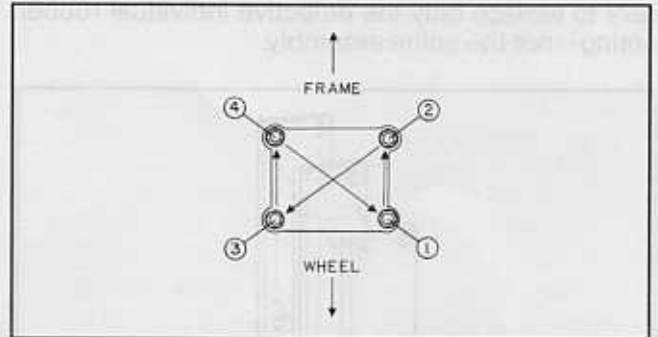

Figure 4 – U-bolt Torque Sequence
During all U-bolt torquing procedures, utilize the torque sequence shown in Figure 4.
4. Tighten U-bolt nuts utilizing the torque sequence until 150 ft.-lbs. of final torque is achieved. Refer to Figure 4.
11. Tighten U-bolt nuts utilizing torque sequence until 150 ft. lbs. of final torque is achieved. Refer to Figure 4.